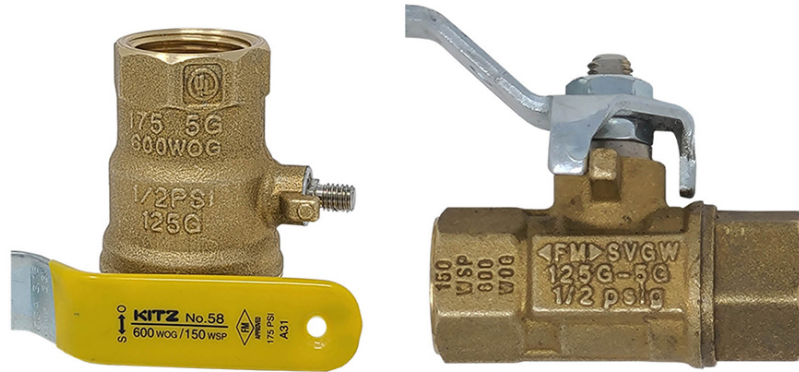

Figure 1. Valve markings
All gas valves must be used within their certified pressure and temperature rating range. The gas installation code recognizes a number of different certification organizations and standards for manual shut-off valves. The markings on the gas valve and or the manufactures specification can be checked to verify the intended purpose for the valve. The multiple approvals that are typically found on each valve can become confusing, as the manufacture attempts to mark all the associated certifications onto the valve body and or handle (Figure 1).
- Figure 1. “Valve markings” by Rod Lidstone is licensed under a CC BY-NC-SA licence.